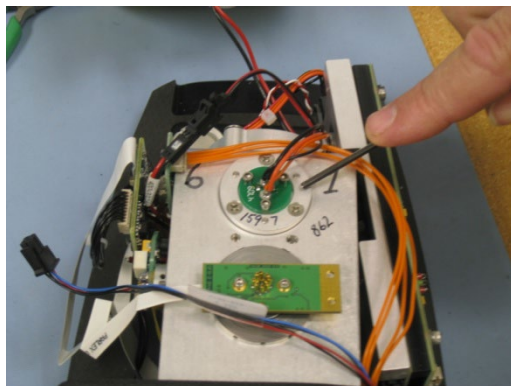

Figure 28. Source assembly in interferometer frame.
- 6 Identify the source assembly. The source is located on the top of the interferometer frame. It is secured by three Philips head screws (see Figure 28). Using the appropriate Philips head screwdriver, remove all three screws.